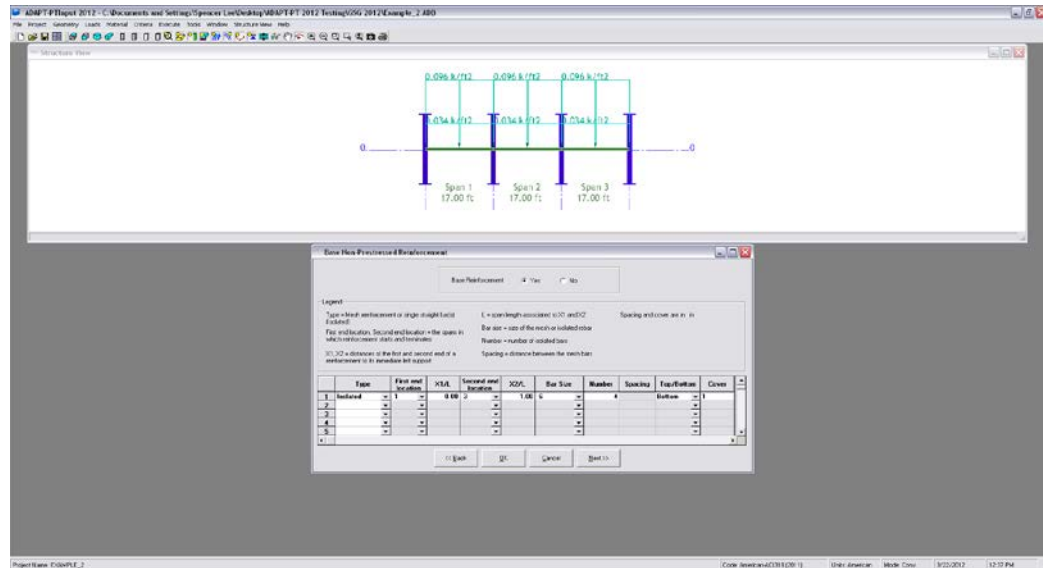

FIGURE 3.1-12
3.1.4.4 Edit Base Reinforcement (Fig. 3.1-12)